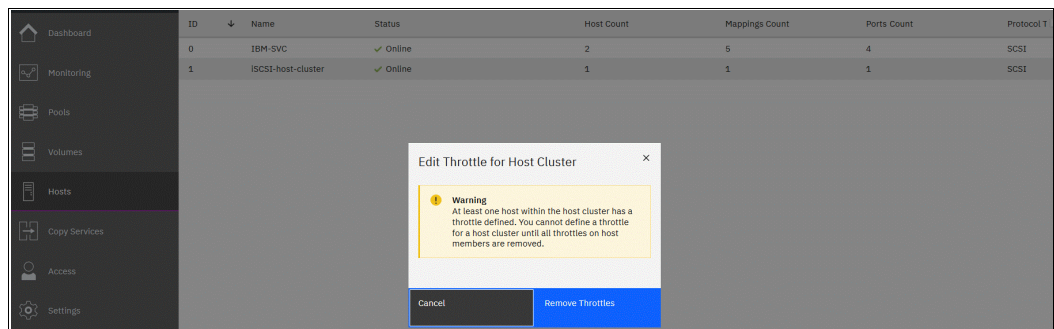

Figure 7-62 Warning that host throttles exist
2. If the hosts in the cluster already have individual throttles that are defined, the host throttles must be removed. Ensure that any throttles on the hosts that are members of the host cluster are removed before you create a cluster throttle. If host throttles exist for the cluster members, the system shows a warning, as shown in Figure 7-62. You can click **Remove Throttles**, or click **Cancel** to leave the individual throttles and stop the host throttle creation.